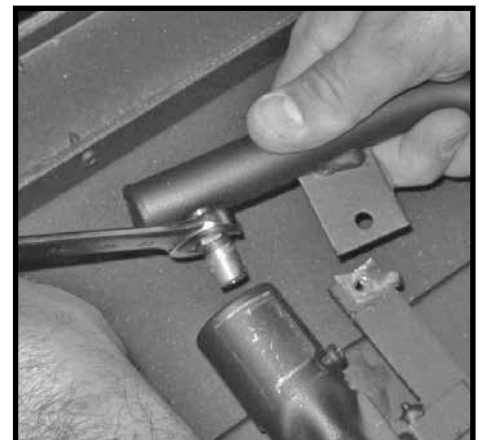

Figure 33: Removing NG orifice.
3. Using a 1/2" wrench, undo and remove the natural gas burner orifice marked "ND" (Figure 33).